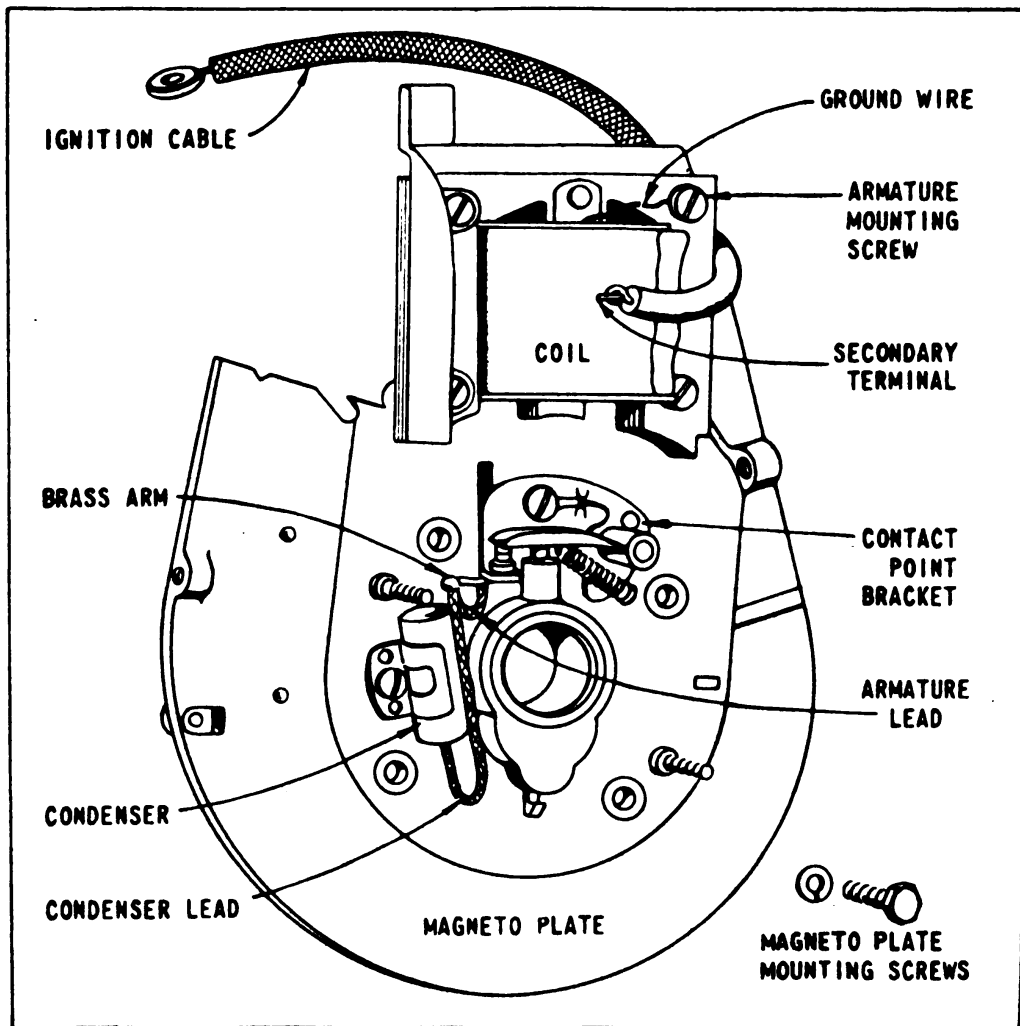

Figure 15.—Complete Magneto assembly
d. Ignition cable.—The cable is shielded to prevent radio interference. The insulation must be kept free of oil or water, and must not be broken. Any of these conditions may cause ground connection to the engine and will interfere with good ignition. To check cable all the way to the magneto it is necessary to remove blower case. Ignition cable should be securely bound to the secondary terminal loop of the coil (fig. 15).
24. TO REPLACE MAGNETO CONDENSER.—A leaky or weak magneto condenser may cause the engine to start hard, to sputter or misfire under load. If engine misfires after you have checked gasoline line, carburetor, spark plug, cable and contact points, install a new condenser. Both the condenser lead and armature lead must be soldered to the brass arm (fig. 15). Be sure to push condenser lead down between condenser and hub of magneto plate so it cannot rub against flywheel. If, after new condenser has been installed, the ignition system still does not deliver a satisfactory spark, replace the complete magneto unit.
from coil are soldered to brass arm on contact bracket (fig. 15) Replace mounting screws, insert the loop of the ground wire under screw and draw screws up tight.